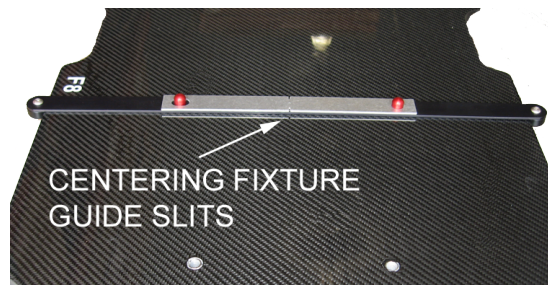

Fig. 72
1. Set the Locating Bar on the CT Overlay at the Foot End of the CT. Place the Centering Adapter on the Locating Bar. Using the CT Laser Alignment system, determine where the alignment beam hits the Centering Fixture guide slits (Fig. 72).